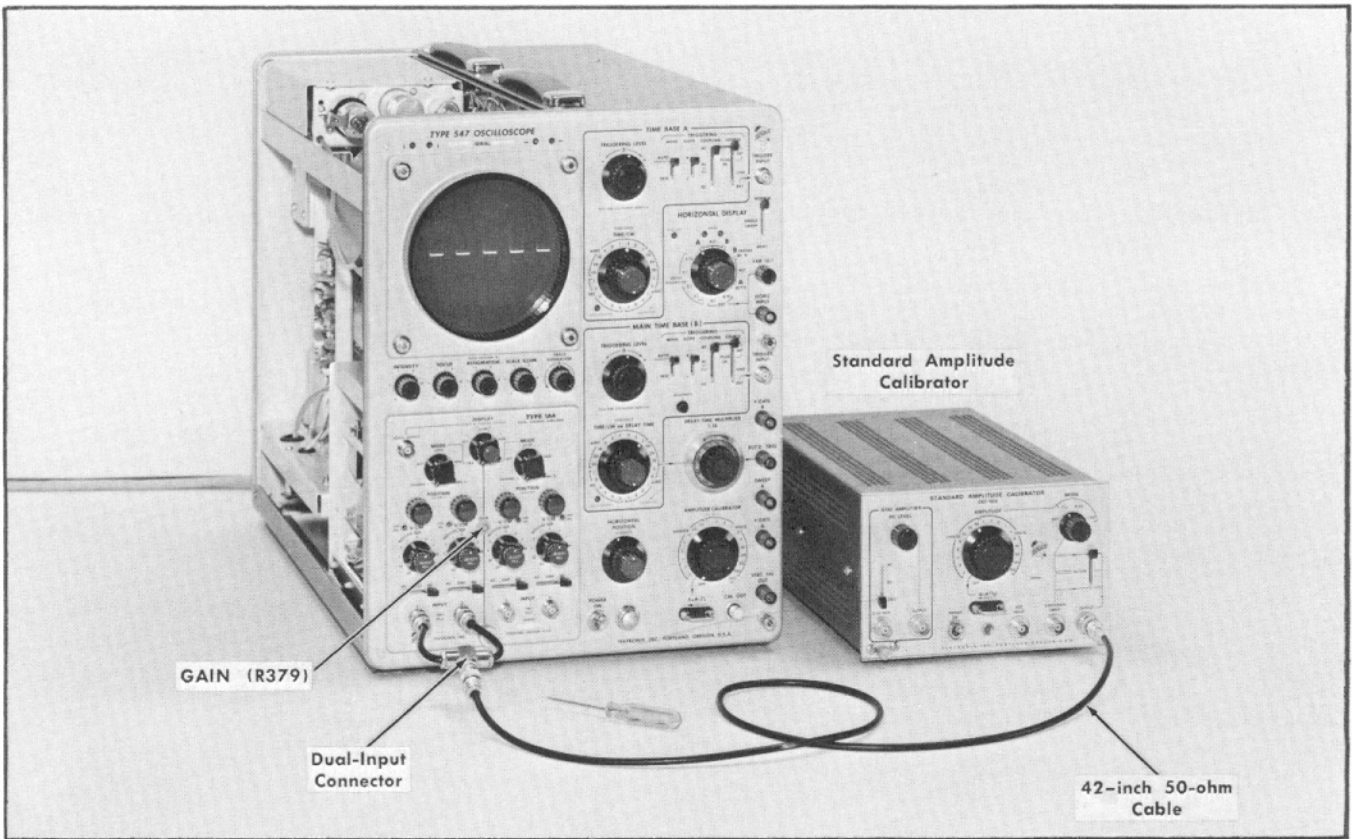

Fig. 7-15. Test equipment setup for steps 9 through 14.
9. Adjust GAIN R379 ①
a. Equipment setup and the location of the GAIN adjustment are shown in Fig. 7-15. Connections made at completion of step 9c are also shown.
b. Set the Standard Amplitude Calibrator (item 5) for a 50 mV square-wave output. Front-panel control settings are given in the list that precedes step 9.
c. Connect the Standard Amplitude Calibrator output connector through a 42-inch 50 ohm cable and a dual-input connector (item 8) to the Type 1A4 Channel 1 and 2 Input connectors.
e. Rotate the GAIN control (R379, see Fig. 7-15) fully clockwise and note the amplitude.
10. Adjust Preamp Gain R77 ①
a. Test equipment setup and connections are the same as shown in Fig. 7-15.
a. Test equipment used in this setup is the same as shown in Fig. 7-15. Set the oscilloscope in the upright position.